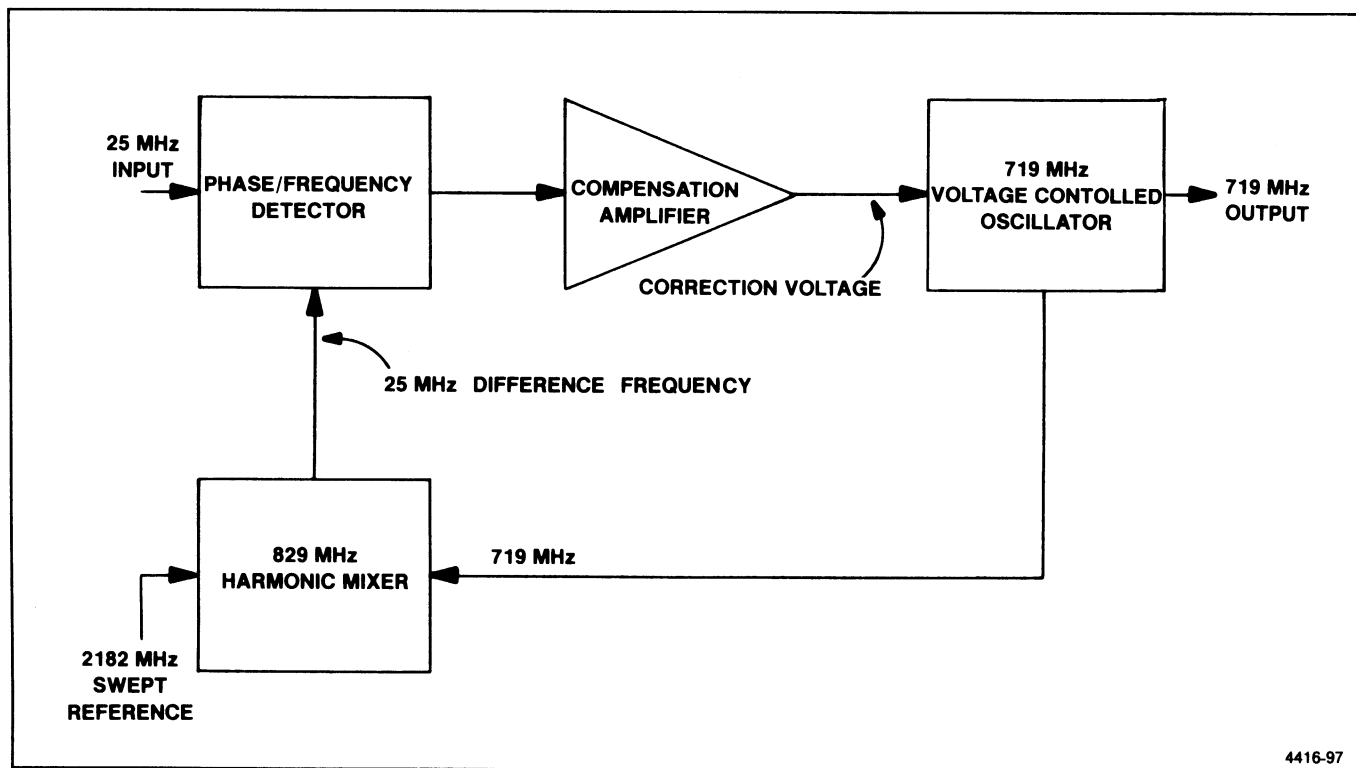

Figure 7-6. Block diagram of the phase lock loop in the 829 MHz 2nd Converter.
**Phase Lock Circuit.** The phase lock circuit receives reference frequency inputs and uses phase/frequency detection techniques to use those signals in controlling the output frequency of the 719 MHz oscillator. The circuit consists of a voltage controlled oscillator (VCO), a phase/ frequency detector, a harmonic mixer, and various amplification stages and power splitters. When the 719 MHz LO is enabled, the 2182 MHz LO output frequency is used as a swept reference to derive the 719 MHz frequency. The VCO is controlled so that the third harmonic of its output frequency is a constant difference from the 2182 MHz reference. This control is accomplished by the phase lock loop. Refer to Figure 7-6 for a simplified block diagram.